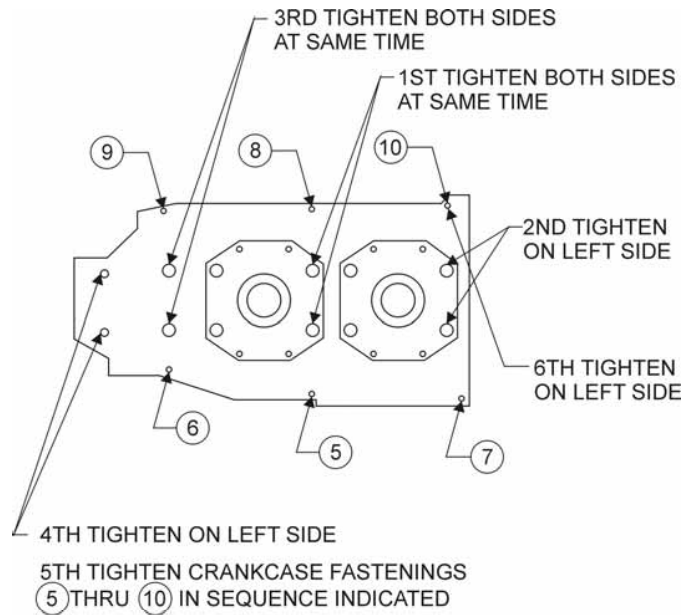

Figure 8-1. Left Side of Crankcase
1. Before the cylinders are assembled on the crankcase, install torque plate P/N ST-222 over the ½ inch thru-studs to simulate the thickness of the cylinder base flange; then install nuts on the free ends of ½ inch thru-studs and tighten each to 300 in.-lbs. (25 ft.-lbs.). Use tightening sequences that following Figure 8-1.
3. Using sequences shown in Figure 8-1, tighten the ¾ inch and ¼ inch nuts at the crankcase parting flange. Torque values are: